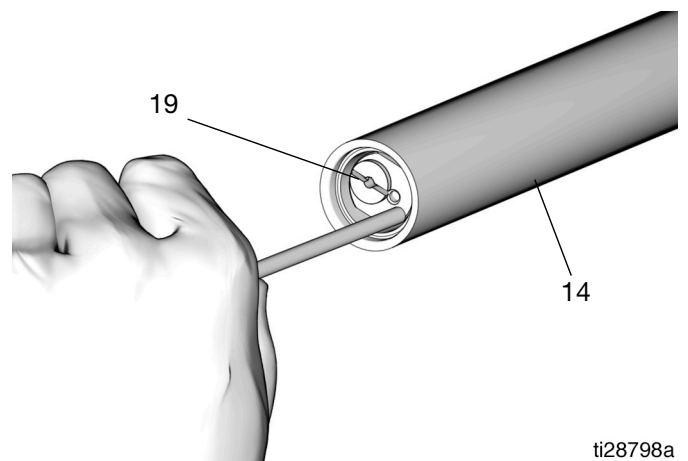

**FIG. 27**
1. Install u-cup seal (36) with lips facing up, and bushing (35) in air cylinder (3) (FIG. 27).